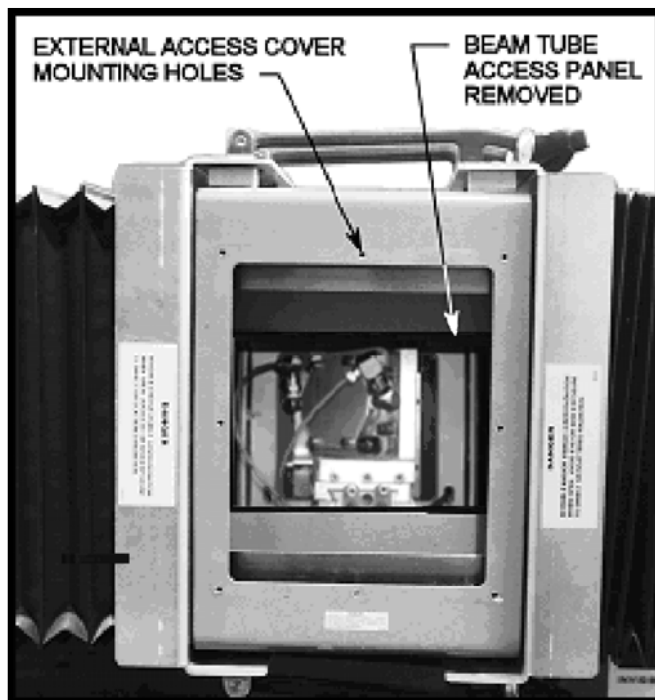

FIGURE 9-19 Moving X-mirror access
Remove the external access cover for the moving X-mirror. See Figure 9-19.
2. Remove the near-field beam tube access panel for the moving X-mirror. See Figure 9-19. This cover is accessible by “pulling back” the X-axis beam bellows. Refer to “BEAM BELLOWS ATTACHMENT” in this section.